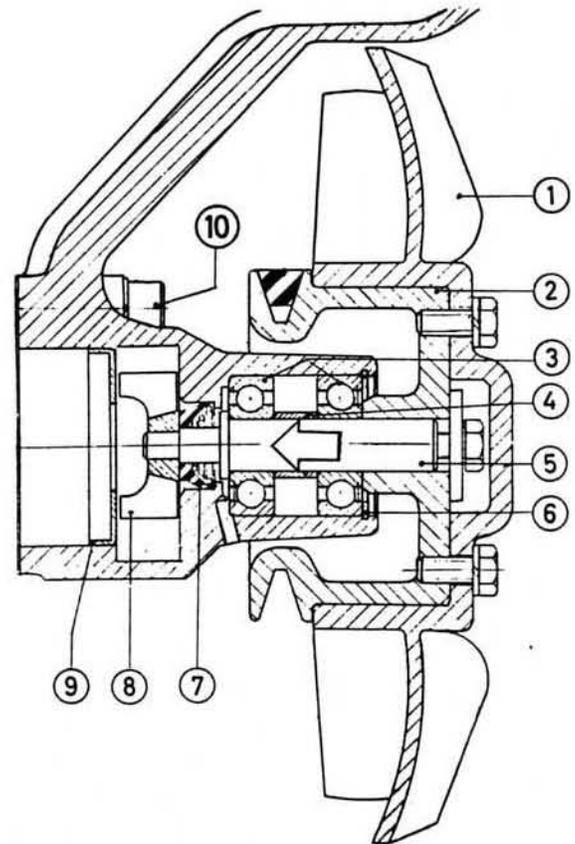

Fig. 69. Cooling water pump.
4. Remove the fan (1, Fig. 69). On D1 engines the fan and pulley are integral.
5. Loosen and remove the pulley (2).
6. Remove the bolts (10).
7. Force off the washer (9).
8. Press out the shaft (5) in the direction of the arrow. The seal (7) and impeller (8) will follow with it.
Place the cone (10) in the gear (16) and measure "X", see Fig. 69. The difference between "X" and 85 mm decides the thickness of shims. If the measurement, for example, is 83 mm, fit a washer with a thickness of 2 mm. If wear is so great that "X" is less than 81 mm, the worn parts must be replaced. The friction facing in the gear and the cone are not replaceable.